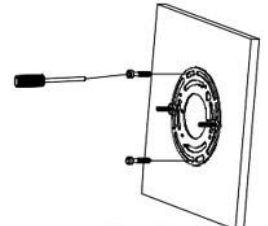

Fig 2
2. Align the opening of the mounting plate with the opening of the internal junction box, ensuring the pre-installed screw threads are pointing outward. Use a drill or screwdriver to install the 2 included screws into the thread holes of the internal junction box (Fig 2).